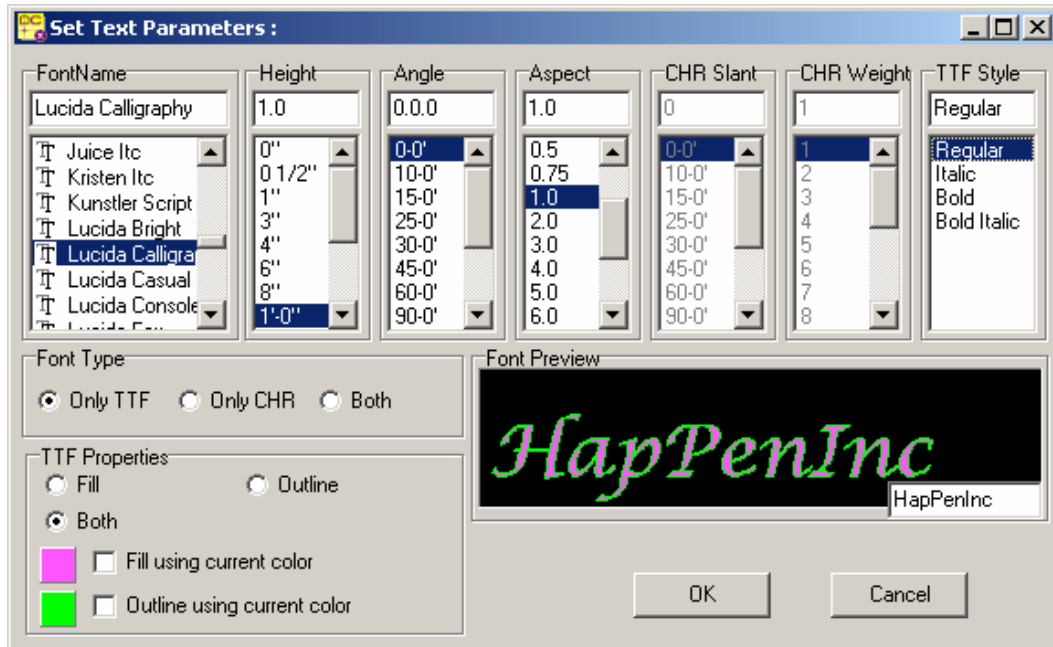

Figure 13.2: Control the appearance of TrueType fonts
3. Choose an arrowhead style. Click on Style in the Arrows menu. A list of five arrowhead styles is displayed. (See Figure 13.2 for examples.)
8. Use the value menu or type a number for the aspect ratio, and press **[Enter]**. (See Figure 13.2 for examples of aspect settings.) An ANSI-standard arrowhead has an aspect ratio of 6.